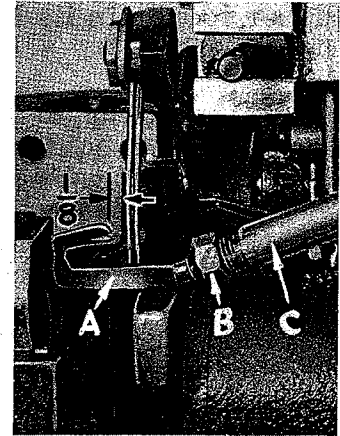

Fig. 5
At this point, insert lower spreader (A, Fig. 5) into bar (C). With lower spreader at the left end of its stroke, set the spreader point  $1/8$  inch from center of left needle, using loop gauge No. 21225 G- $1/8$ . Do not have lower spreader deflecting the needles. Tighten nut (B).